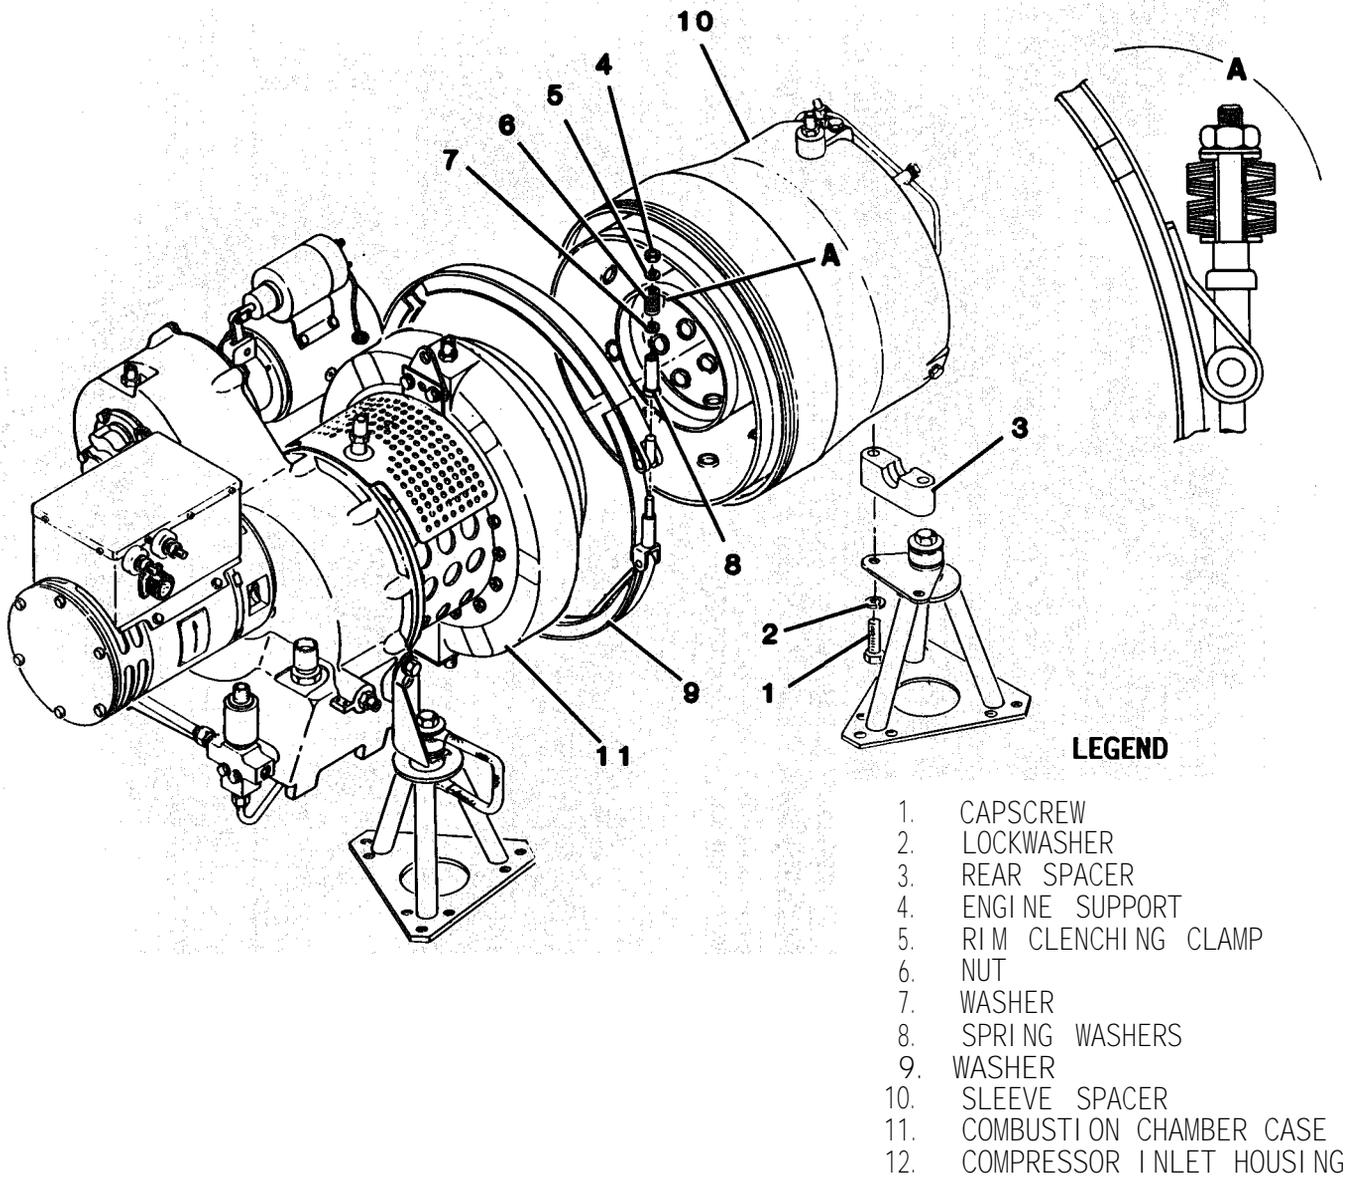

Figure 8-1. Combustion Chamber Case Assembly Removal
(4) Insert block of wood (3/4 in. by 1-1/2 in. by 4 in.) under gearbox.
(5) Remove capscrew (1, figure 8-1), lockwasher (2), and rear spacer (3).
To prevent damage and to ensure proper operation, spring washers must be installed as shown in figure 8-1, inset A.